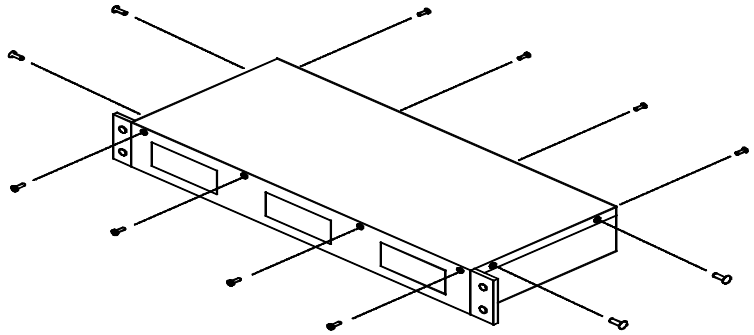

Figure 9. *Removing or Installing the RIM Chassis Cover*
2. Either remove the RIM chassis from the rack or slide it out far enough to gain access to the screws securing the top cover (Figure 9).